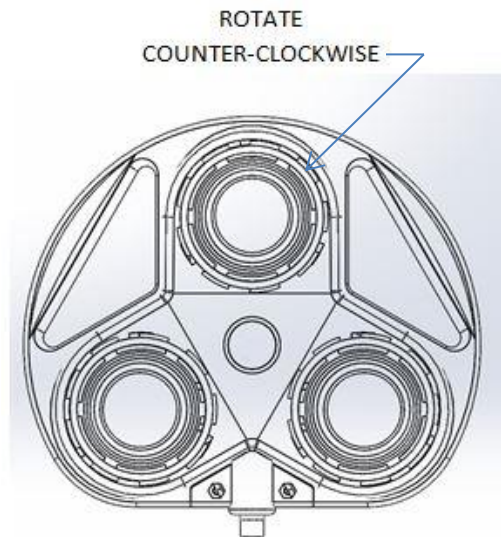

FIGURE 1
1. Refer to figure 1. Turn the lamp head over so the lamps face upward.
2. With one hand supporting the backside of the lamp, grasp the notched ring assembly (1) and twist it counter clockwise.